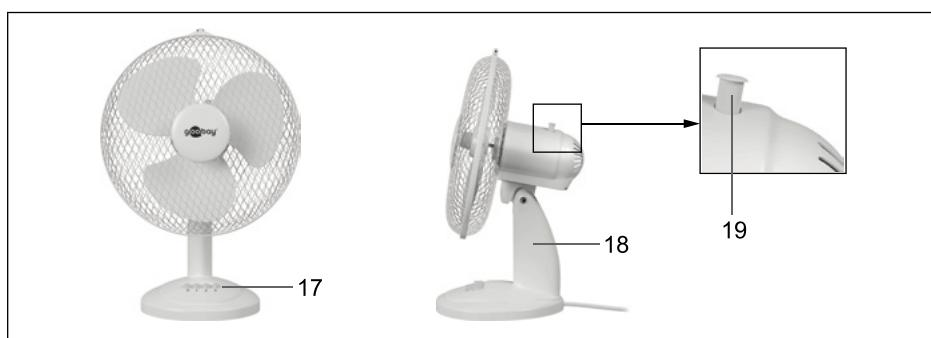

Fig. 17: Ready mounted table fan
11. Pull the resulted ring onto the edge of the rear protective grille (14).
The edge of the protective grille must lie in the rear groove (15) of the fixing tape. Fig. 17 a).
12. Insert the front guard grille (6) into the front groove (16) of the fixing strip.
Fig. 17 b).
13. Tighten the Phillips screw further clockwise using a Phillips screwdriver. Fig. 17 c).
The blower intensity can be adjusted in 3 steps by pressing the push buttons 0-3 (17, fig. 17):